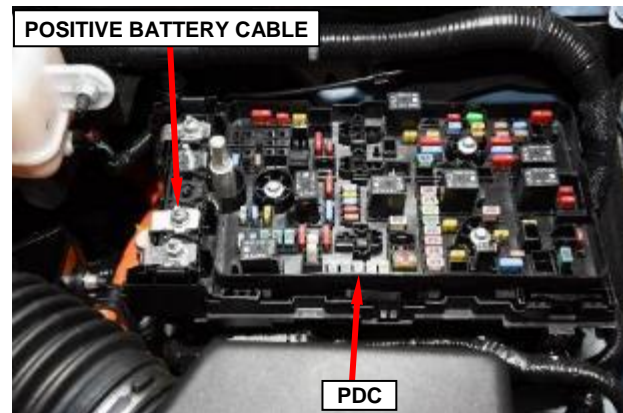

Figure 3 – Positive Battery Cable
8. Remove and save the nut securing the positive battery cable, then disconnect the positive battery cable from the 12-volt PDC (Figure 3).